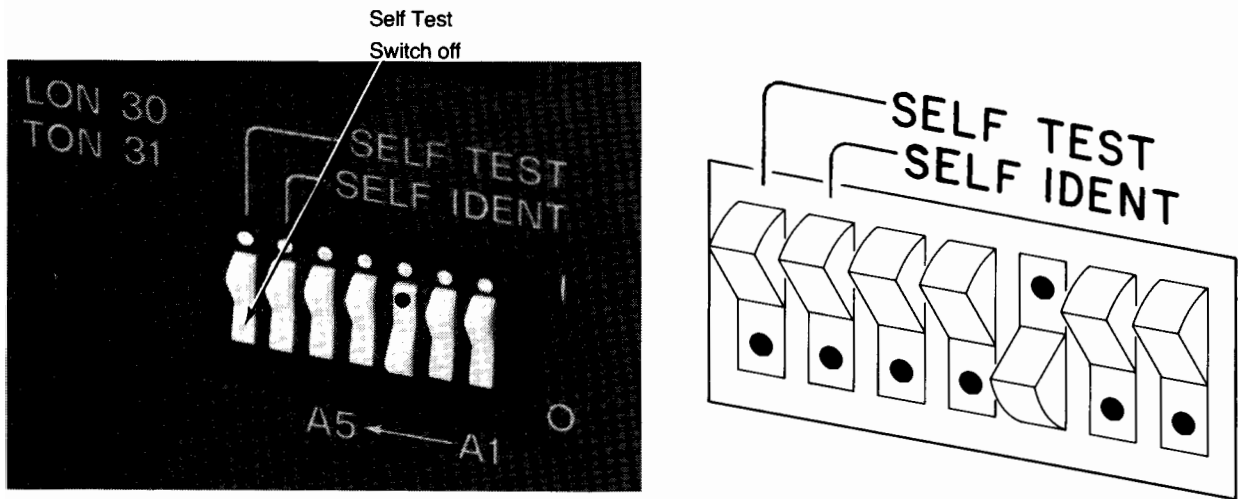

Figure 1-6: Self Test Switch OFF
3. Verify that the self-test switch is off unless you are conducting a self-test. The self-test switch is shown in Figure 1-6.